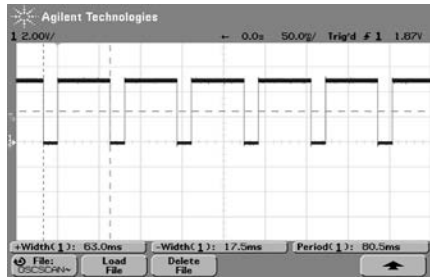

Figure 2.
4. Verify channel 1, 2, 3, and 4 oscillator scan signals (Figure 2, below) on Pins 22, 21, 20, and 19 (respectively) of U6.